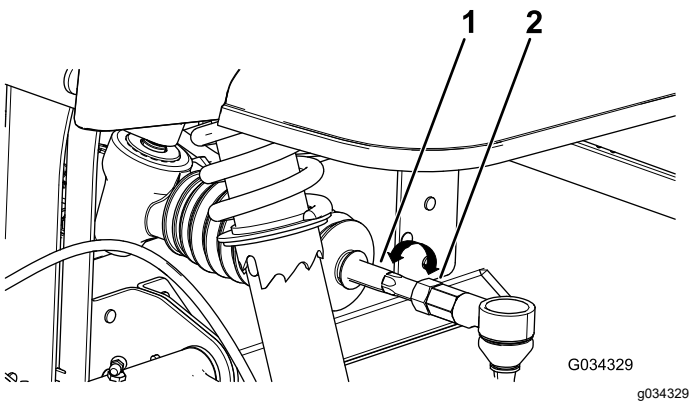

Figure 55
4. If the measurement does not fall within 0 +/- 3 mm (0 +/- 1/8 inch), loosen the jam nuts at the outer end of the tie rods (Figure 55).